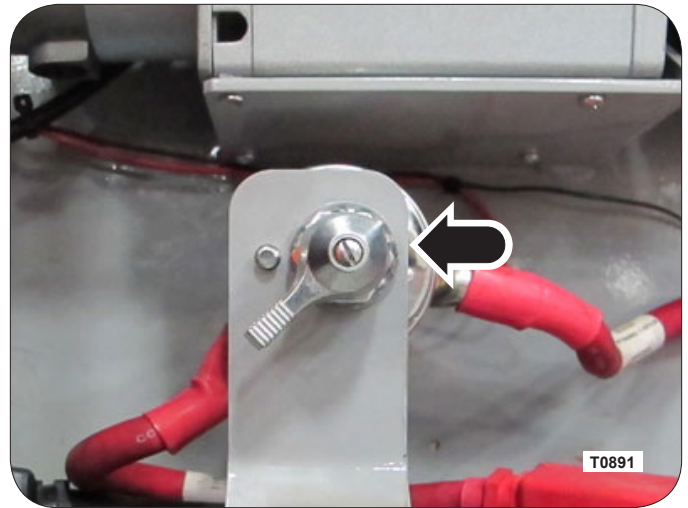

Figure 2: Master Disconnect
3. If the machine is to be left unattended, such as overnight, switch off the master electrical disconnect or disconnect the positive (+) battery cable. See Figure 2.